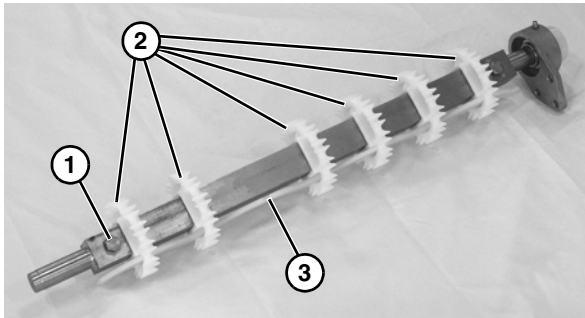

Figure 68
5. Remove bolt (**Figure 68, item 1**), to slide sprockets (**Figure 68, item 2**) from spindle shaft and sprocket alignment bar (**Figure 68, item 3**).